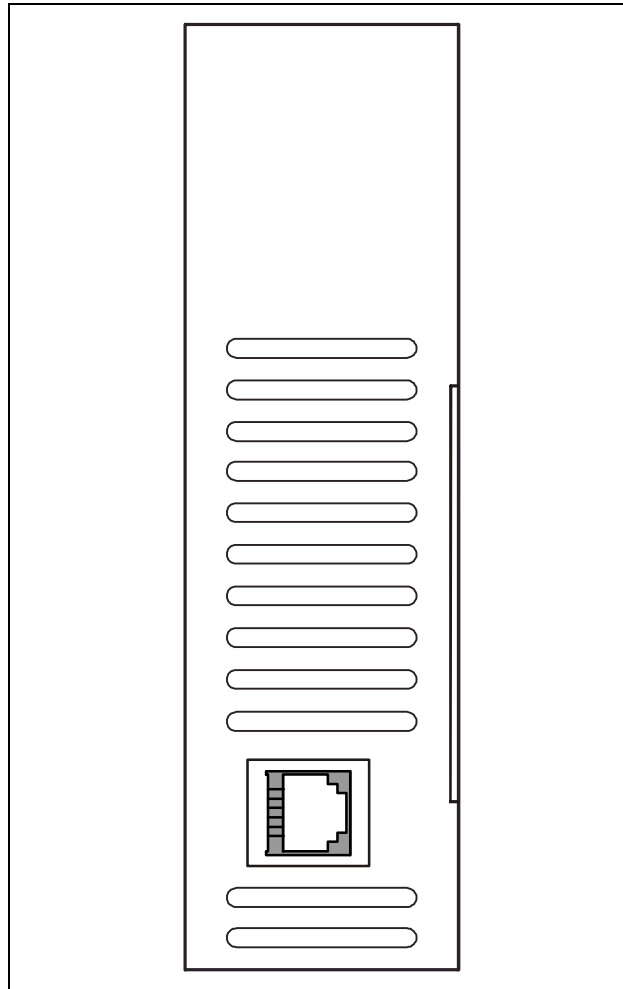

Fig. 7 – Serial connector (PLUS K series drives high side view).
6.3- Fig. 7 shows the position of DIP-SWITCH located on the high side of PLUS K series drives.